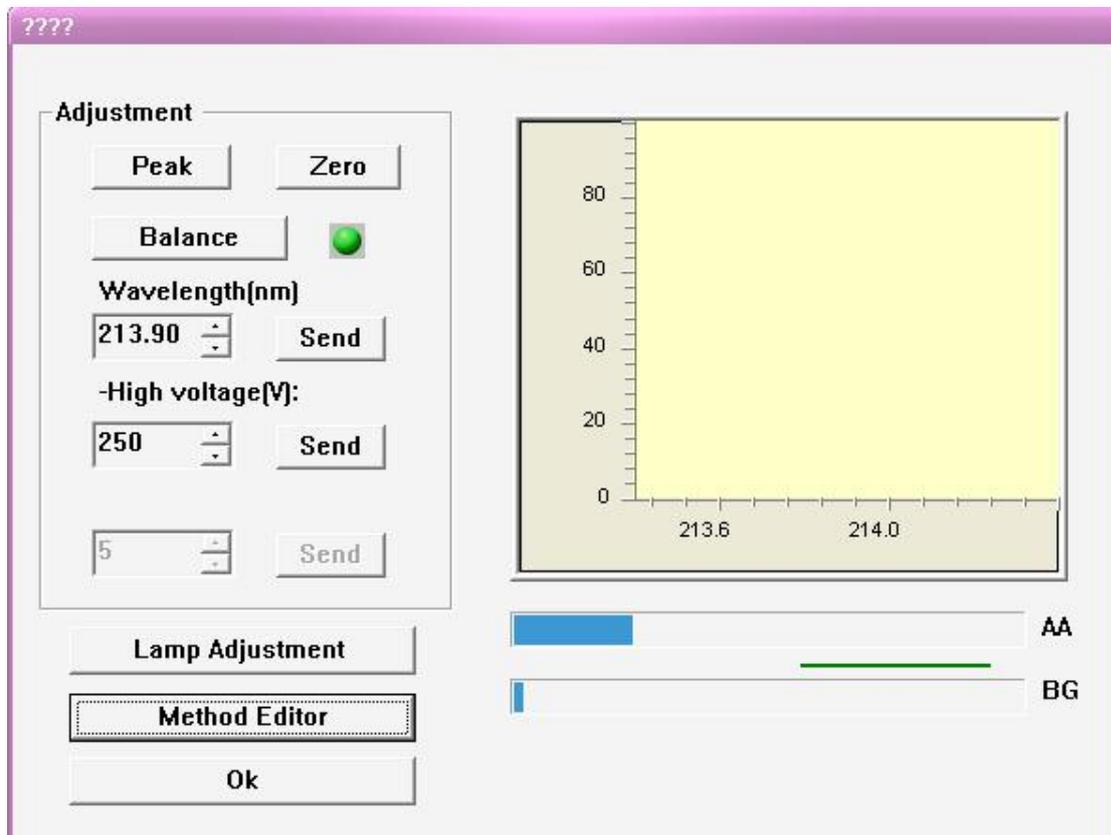

Figure 6-4
5. Press **【OK】** to align lamp, figure 6-4, see “Aligning lamps”